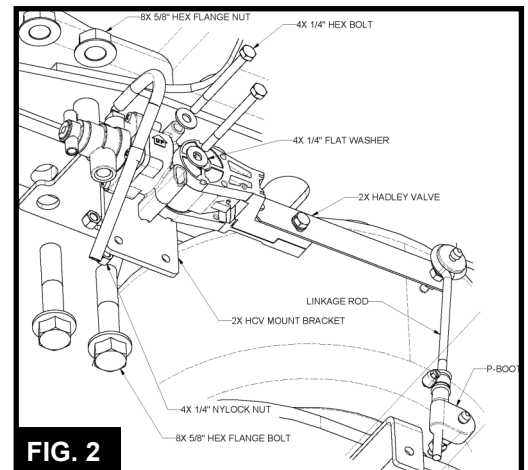

FIG. 2
6.2 Install Height Control Bracket (HCV Bracket) along with the additional fasteners for securing the front hanger to the bottom side of the frame rail. There are 4 - 5/8" Hex Flange Bolts and 4 - 5/8" Hex Flange Nuts **Not Included** per side. Insert the bolts for the HCV Bracket through the HCV bracket, through the front hanger, in through the spacer plate, and into the frame rail. The procedure for the other 2 bolts are the same, but starting through the front hanger. Secure all bolts with 5/8" Hex Flange Bolts (See FIG. 2).
6.3 With the HCV Bracket secure, install the height control valve (HCV) onto each trailing arm hanger using the 1/4" bolt, flat head washer (2X), and the Nylock nut (See FIG. 2).